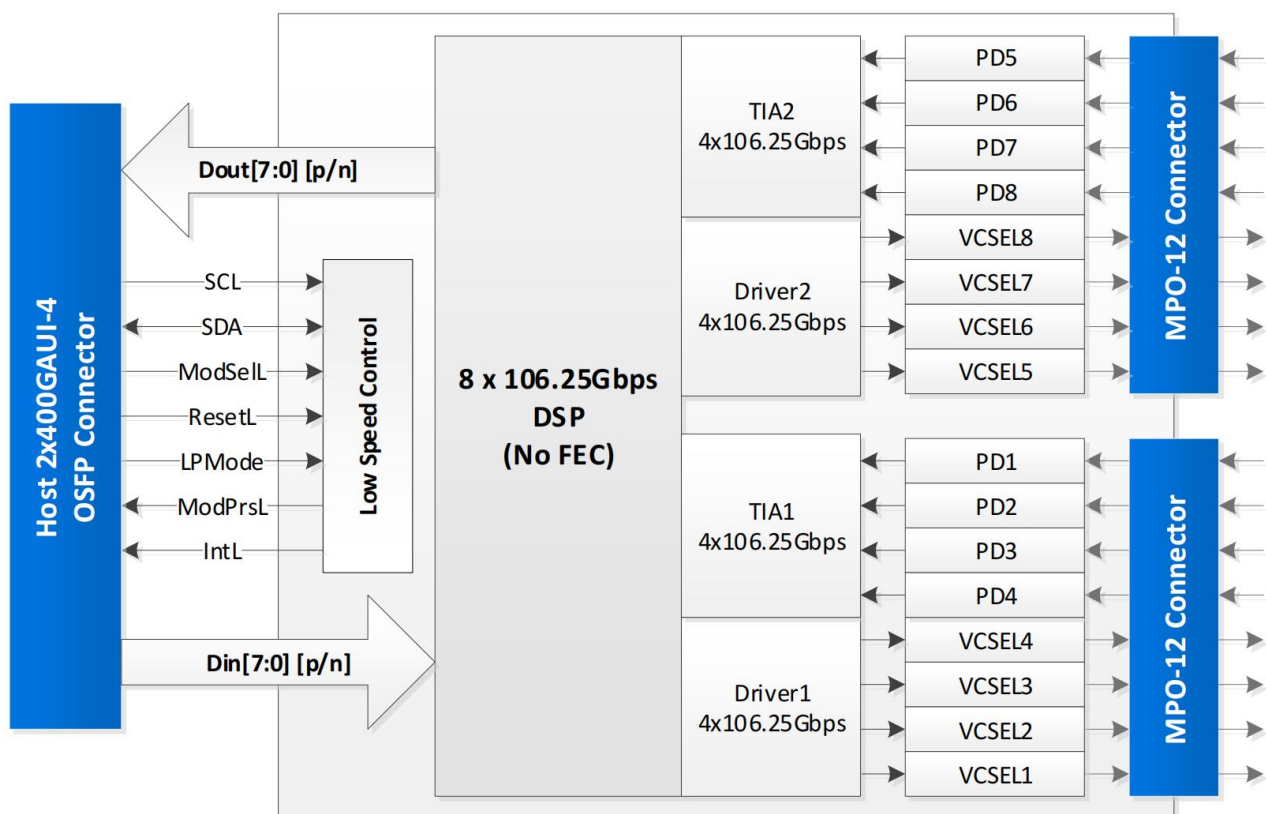

Figure 6 Transceiver Block Diagram
As shown in Figure 6, the transmitter path of the transceiver contains an 8x106.25Gbps 2x400GAUI-4 electrical input and equalization (EQ) block, two 4-channel laser drivers and eight multi-mode laser sources.
As shown in Figure 6, the receiver part of the transceiver contains eight PIN photodiodes, two 4-channel trans-impedance amplifiers (TIA) and an integrated 8x106.25Gbps 2x400GAUI-4 compatible electrical output block.